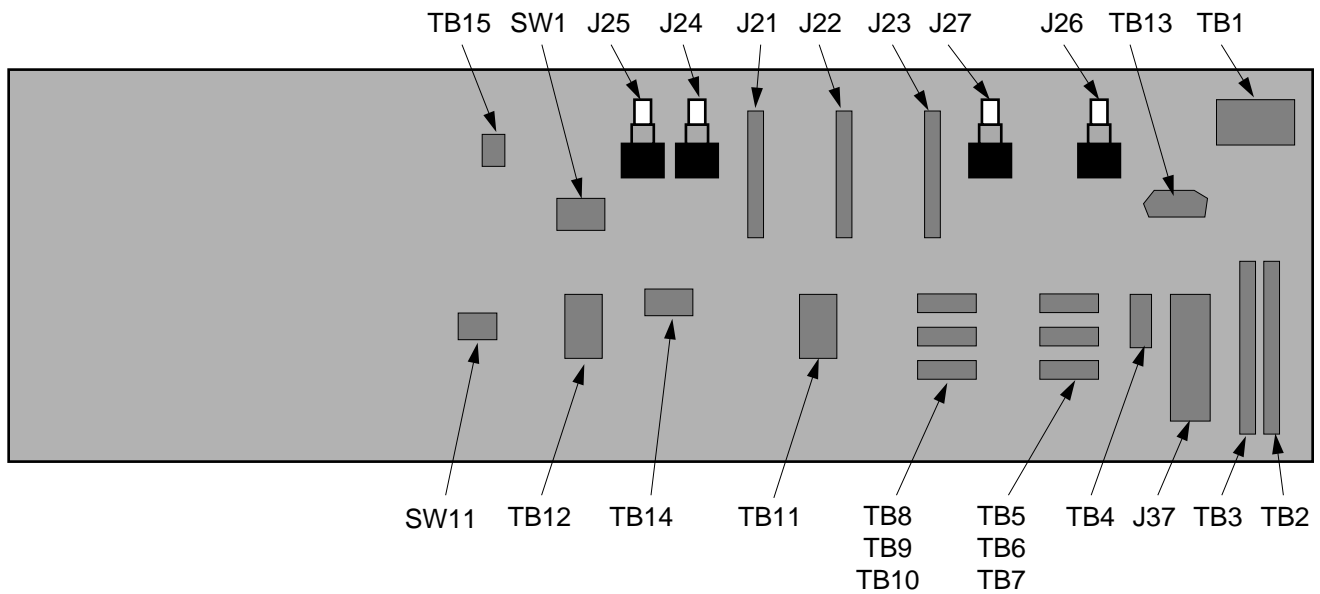

Figure 12. ST2 Rear Panel
2.18 Refer to Figures 12 through 13 and Tables M through N to connect the master system to the remote shelf system as follows:
2.24 Consult the local company Installation Job Specifications to set switches SW1 and SW11 on the DCD-ST2 master shelf backplane for setting up the system (see Figure 12 for switch locations); the switches have no effect on the expansion shelves.
1. Using Figure 12 and Table O as reference, set switches SW1 and SW11 on the backplane of the DCD-ST2 master shelf assembly per local company Installation Job Specifications.